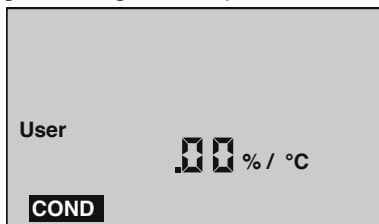

Figure 3
- b. With “**User**” selected, press $\text{CAL} \over \text{MCLR}$. If the display does not show .00%/°C, hold long enough to bring the tempco to .00%/°C (see Figure 3).